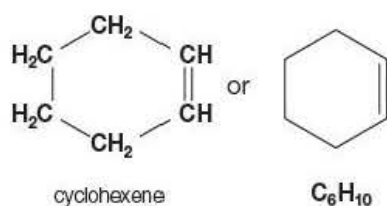

Figure 6.1 ▲
- Alicyclic hydrocarbons are those with rings of carbon atoms, such as cycloalkanes and cycloalkenes (Figure 6.1). Alicyclic hydrocarbons are often simply called cyclic hydrocarbons.